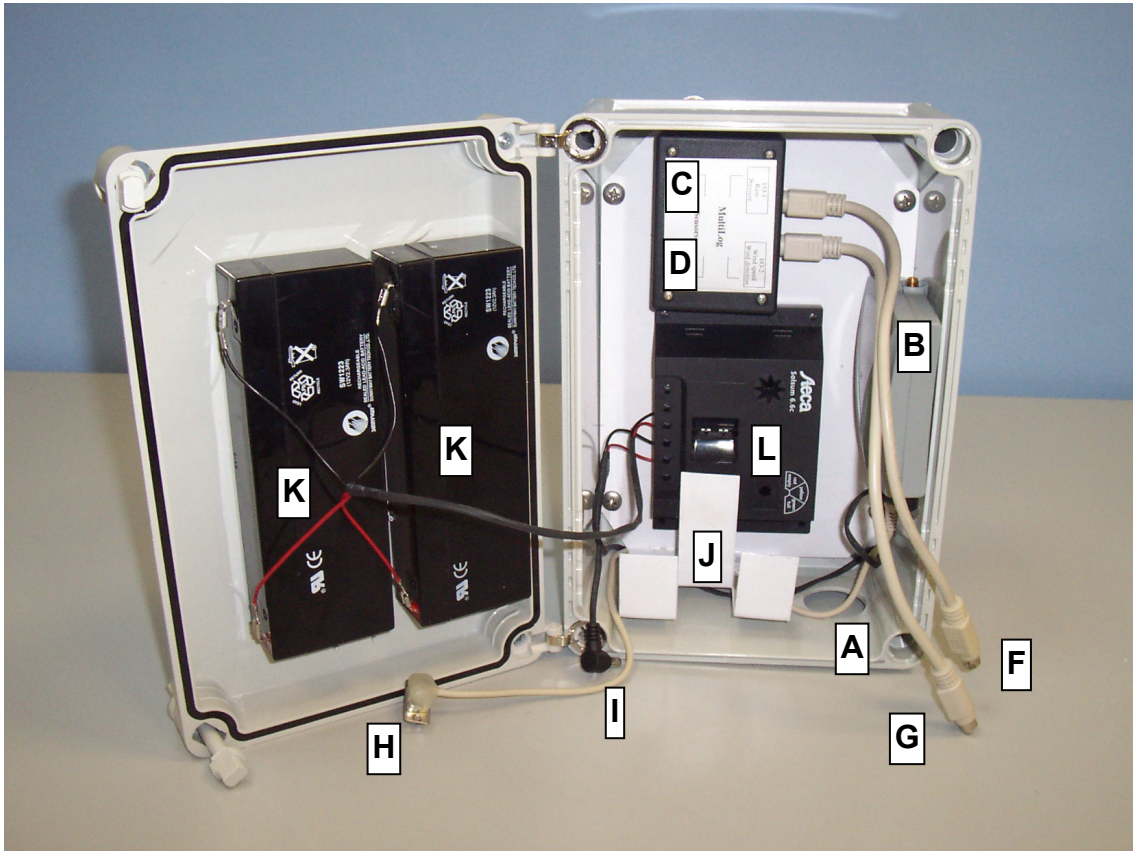

Figure 17: Wiring the Weather Station main box
1. Insert the antenna cable to the Weather Station main box through the hole at the bottom of the box (A) and connect it to the antenna socket (B) at the top of the transmitter (see Figure 17)
2. Insert the rain sensor cable to the Weather Station main box through the hole at the bottom of the box (A) and connect it, flat side out, to the rain socket (C) on the sensor adaptor (see Figure 17)
3. Insert the anemometer cable to the Weather Station main box through the hole at the bottom of the box (A) and connect it, flat side out, to the rain socket (D) on the sensor adaptor (see Figure 17)
4. Insert the solar panel cable to the Weather Station main box through the hole at the bottom of the box (A), connect the male lug
- D. Connect the communication cable (**H**) from the transmitter to the COMM socket on the left side of MultiLogPRO (see Figure 17)
- E. Connect the power cable (**I**) to the 9 -12V socket on the left side of MultiLogPRO (see Figure 17)
6. Place MultiLogPRO in its holder (**J**) in the Weather Station main box (see Figure 17 and Figure 18)
1. Insert the rain sensor cable to the Weather Station main box through the hole at the bottom of the box (**A**) and connect it, flat side out, to the rain socket (**C**) on the sensor adaptor (see Figure 17)
2. Insert the anemometer cable to the Weather Station main box through the hole at the bottom of the box (**A**) and connect it, flat side out, to the rain socket (**D**) on the sensor adaptor (see Figure 17)
- F. Connect the power cable (**I**) to the 9-12V socket on the left side of MultiLogPRO (see Figure 17)
- 5. Place MultiLogPRO in its holder (**J**) in the Weather Station main box (see Figure 17 and Figure 18)